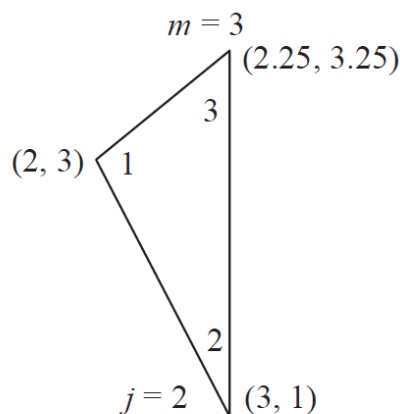

Figure 7
5. For the plane strain elements shown in Figure 7 , the nodal displacements **(10)** are given as